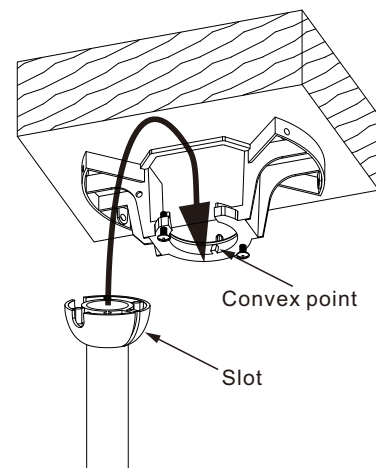

Figure 14
Step 9. Place the downrod ball into the hanger bracket socket. (Fig. 14) And rotate fan and downrod assembly until tab on bracket lines up with slot on ball.
Step 1. (Fig. 14) Insert the receiver into the hanger bracket with the flat side of the receiver facing the ceiling.